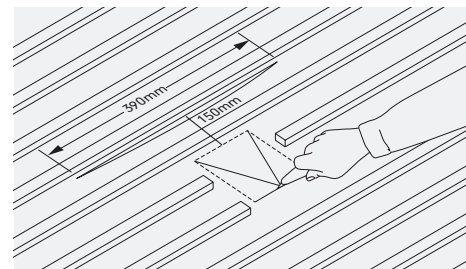

Fig. 1 - Make aperture in underlay. For Plain and Anglia tiles battens will need to be cut to create sufficient aperture
- 4 Make a horizontal cut in underlay, 390mm long, at a distance 150mm above bottom edge of tiling batten above unit and slide soaker tray under batten and through slit in underlay (Fig. 1, page 237).